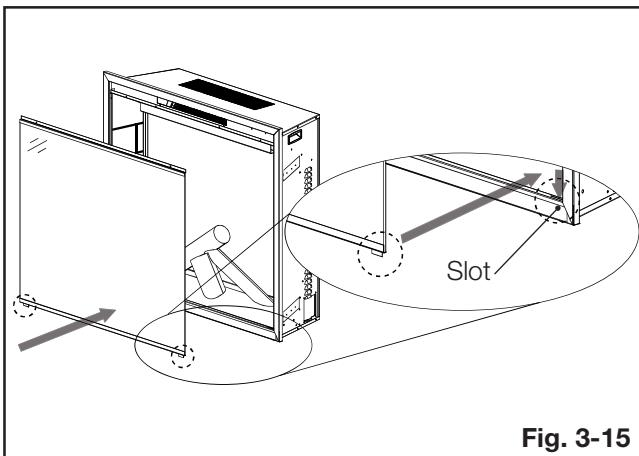

Fig. 3-15
12. Re-install the glass door (**Fig. 3-15 and 3-16**).